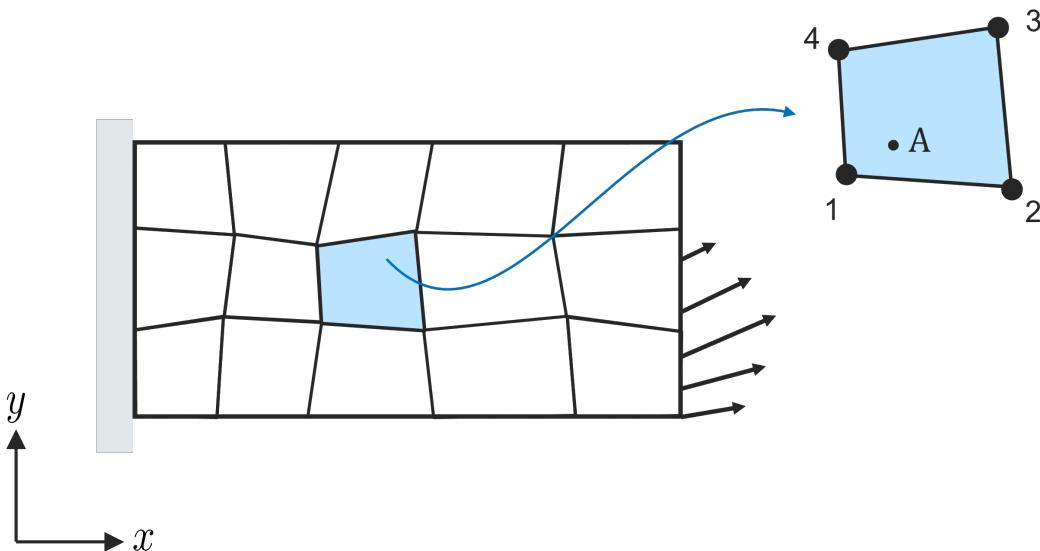

Figure 4: Illustration of component with discretization and the considered element in Problem 3.
Assume a mechanical FE simulation has been performed of a component with thickness,  $t = 0.025$  m. The material is assumed linear elastic with Young's modulus,  $E = 210$  GPa, and Poisson's ratio,  $\nu = 0.3$ . The simulation used a discretization of bilinear isoparametric quadrilateral elements as can be seen in Figure 4. In this problem, you will only consider a single element (among those used in the FE simulation). The coordinates for the four nodes (on the element level) are
- a) Consider a point A within the element with local coordinates  $[0.25, 0.15]^T$  in the parent domain. (The point is shown in the right part of Figure 4.) For this point, calculate the corresponding global coordinates  $\mathbf{x}_A = [x_A, y_A]^T$ . (1p)